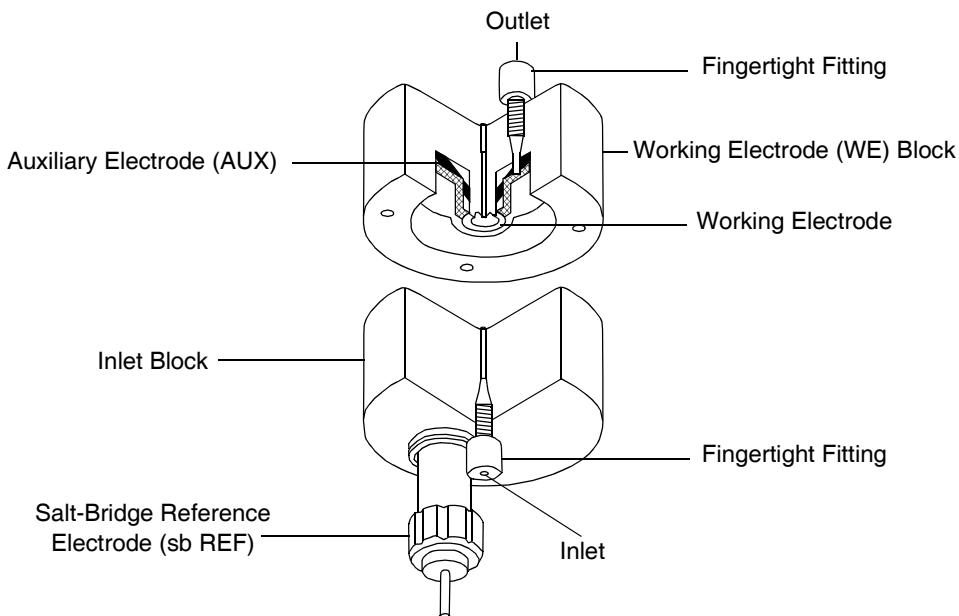

Figure 1-7 Flow Cell with a Salt-Bridge Reference Electrode
The standard flow cell is available with a glassy carbon (GC), platinum (Pt), gold (Au), or silver (Ag) working electrode (Figure 1-7). In combination with the spacer size set (25, 50, and 120 μm), a variety of detection volumes down to 11 nL can be attained. The inlet block is separated from the working electrode block by means of a spacer (not shown in Figure 1-7).